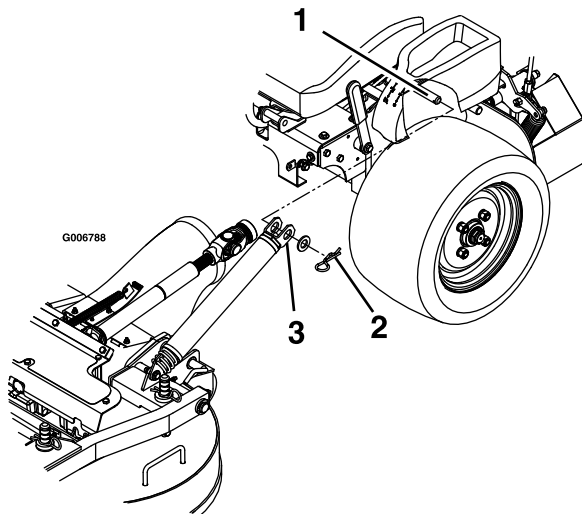

Figure 6
7. Install springs onto the spring anchor pins under the left and right consoles and secure with a washer and hairpin (see Figure 6).
3. Remove hairpins and washers at the top of the deck lift assist spring on each side of the unit (see Figure 6).